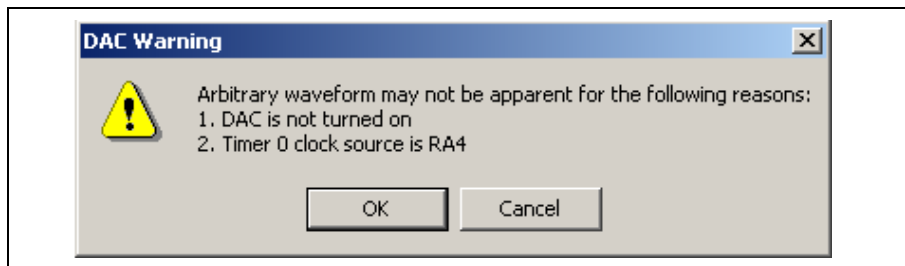

Figure 3.4: DAC Warning
7. Select the Timer tab on the Evaluation Board Control Panel. The Timer0 and Timer1 controls display as shown in Figure 3.4. For this example, we will use the internal clock function, $F_{osc}/4$ as the clock source for Timer0.